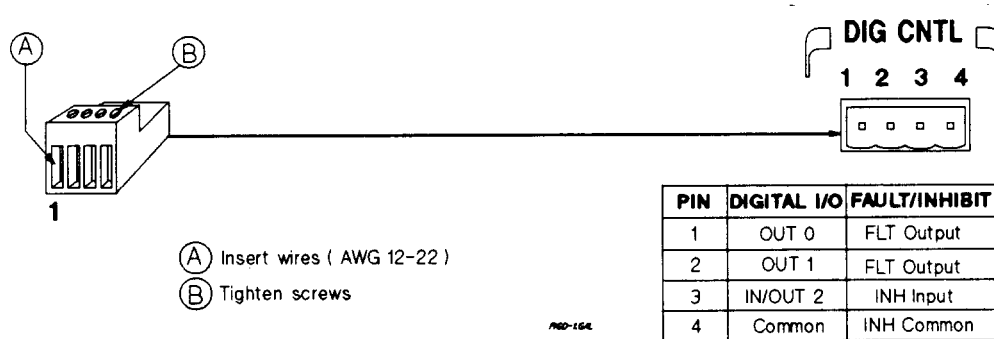
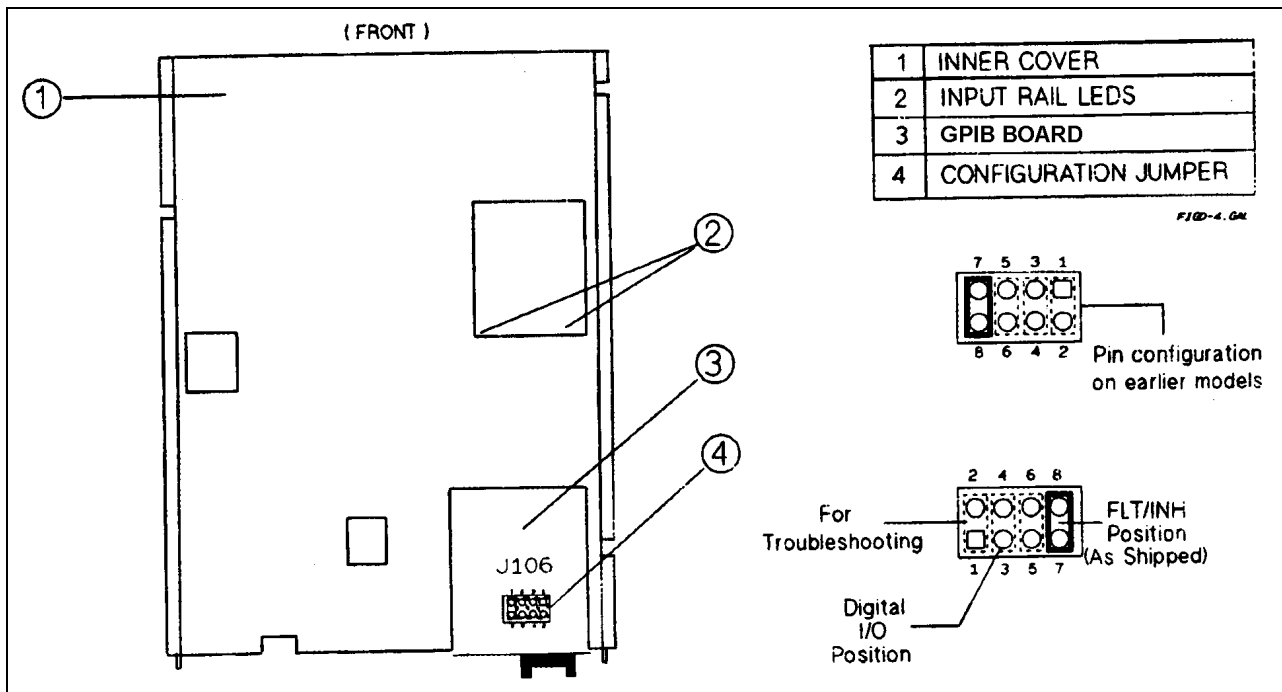
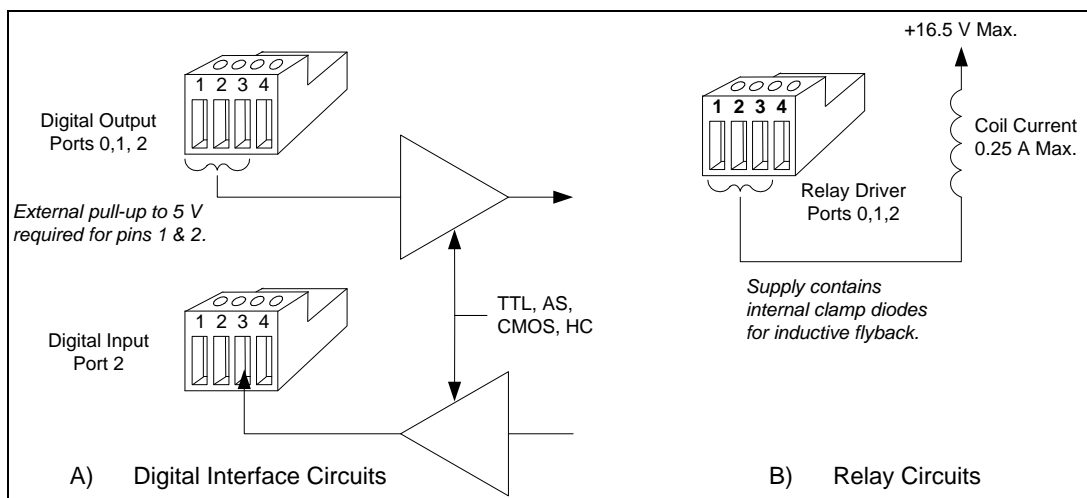

Figure D-1. Digital Port Connector
Figure D-4. Digital Port Configuration Jumper
Figure D-5. Digital I/O Port Applications
A 4-pin connector and a quick-disconnect mating plug are provided for digital input and output signals (see Figure D-1 for wiring connections, and Table 1-5 in Chapter 1 for electrical characteristics). This digital port can be configured to provide either Fault/Inhibit or Digital I/O functions.
As shipped from the factory, the digital port is configured for FLT/INH operation. You can change the configuration of the port to operate as a general-purpose digital input/output port to control your custom circuitry as shown in Figure D-4. To change the port configuration, you must move a jumper on the GPIB board.
5. Refer to Figure D-4 and use needle-nose pliers to move the jumper to the Digital I/O position.
The digital port can be configured (see Figure D-4) to provide a digital input/output to be used with custom digital interface circuits or relay circuits. Some examples are shown Figure D-5. See Figure D-1 for the pin assignments of the mating plug and Table 1-5 for the electrical characteristics of the port. See **DIG:DATA[:VAL]** in "Chapter 3 - Language Dictionary" of the Programming Guide for information on programming the port. The digital port pins are as follows:
The digital port can be configured to provide relay control outputs for the Keysight 59510A or 59511A Relay Accessory. Refer to Figure D-1 for the pin assignments of the mating plug.